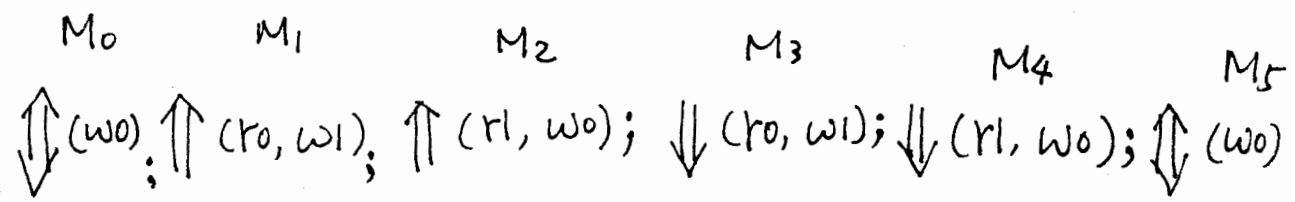

Fig. 5(a)
- An idempotent coupling fault (CFid) is where a rising or falling transition on aggressor cell C_a sets the victim cell C_v to 0 or 1. This can be denoted by four different fault primitives: $\langle \uparrow; 0 \rangle$, $\langle \uparrow; 1 \rangle$, $\langle \downarrow; 0 \rangle$, and $\langle \downarrow; 1 \rangle$. Assume we have a memory array with 100 words and each word contains 1 bit only. For the March C-algorithm shown in Fig. 5(a), give the first march element(s) that will sensitize and observe each fault primitive. Use a table like the one shown in 5(b) to give your answer. No grade will be given if you do not summarize your results in the table. (16%)